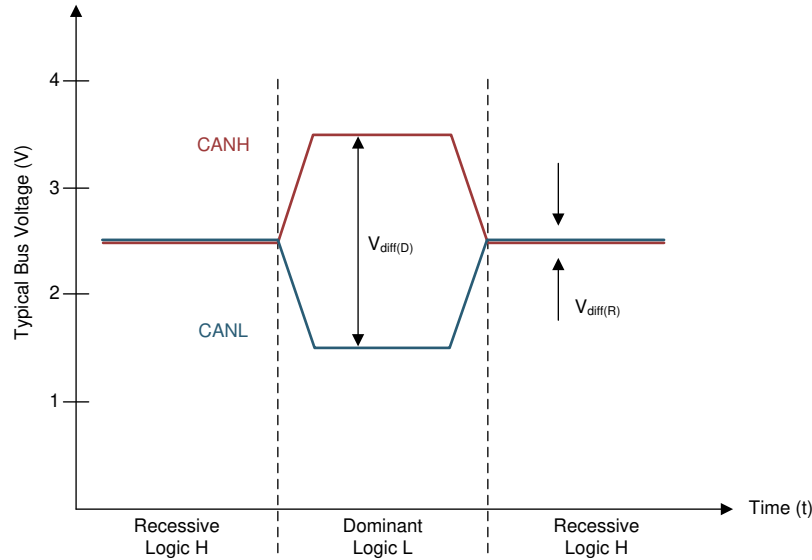
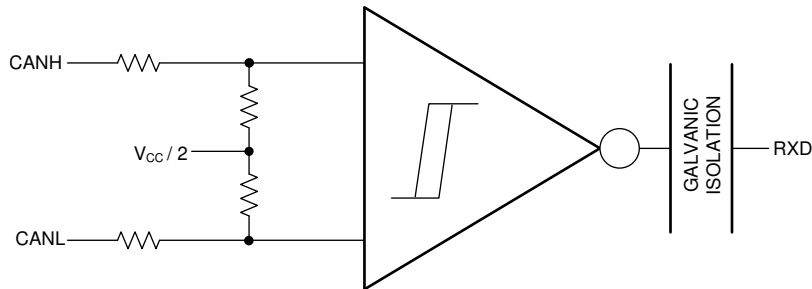

图 8-1. Bus States (Physical Bit Representation)
图 8-2. Simplified Recessive Common Mode Bias and Receiver
The CAN bus has two states during operation: *dominant* and *recessive*. A dominant bus state, equivalent to logic low, is when the bus is driven differentially by a driver. A recessive bus state is when the bus is biased to a common mode of $V_{CC} / 2$ through the high-resistance internal input resistors of the receiver, equivalent to a logic high. The host microprocessor of the CAN node uses the TXD pin to drive the bus and receives data from the bus on the RXD pin. See Figure 8-1 and Figure 8-2.
- (1) H = high level, L = low level, Z = common mode (recessive) bias to $V_{CC} / 2$. See 图 8-1 and 图 8-2 for bus state and common mode bias information.